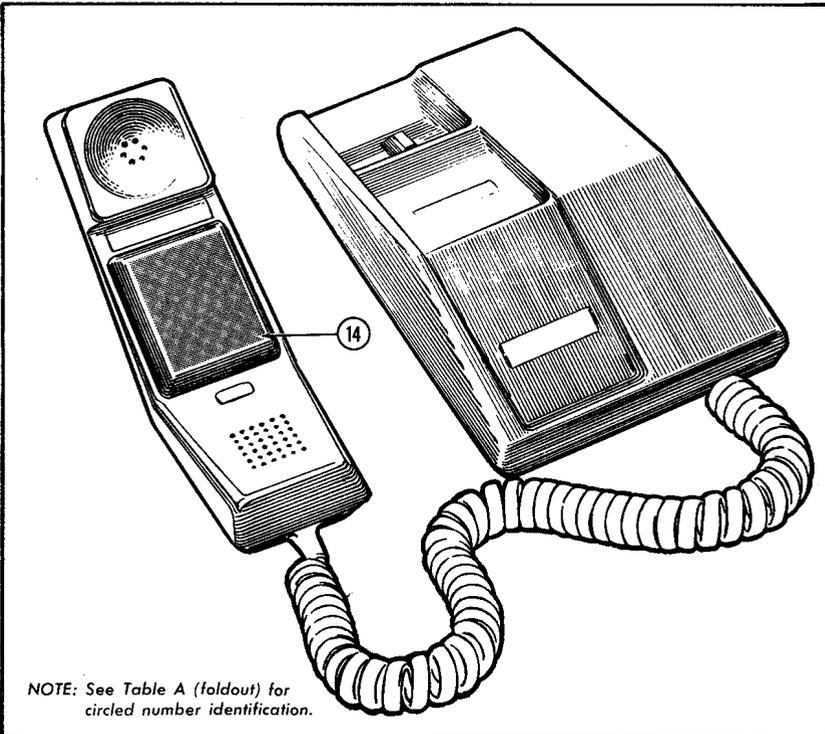

FIGURE 4. QSK100C Manual Telephone
2.07 The QSK100C is the "manual" version of the QSK100A and no dial is required (Figure 4).